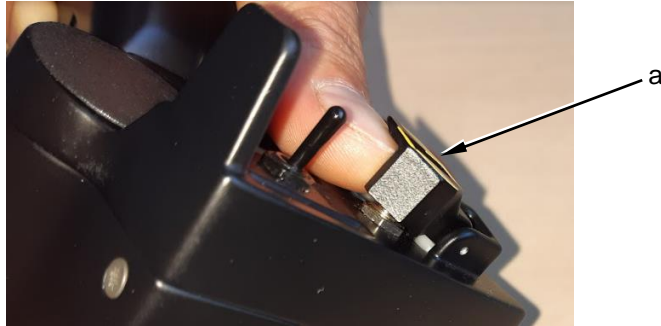

Figure 6 - Step1
- . Lift the safety-cap (a) with your thumb, refer to Figure 6.